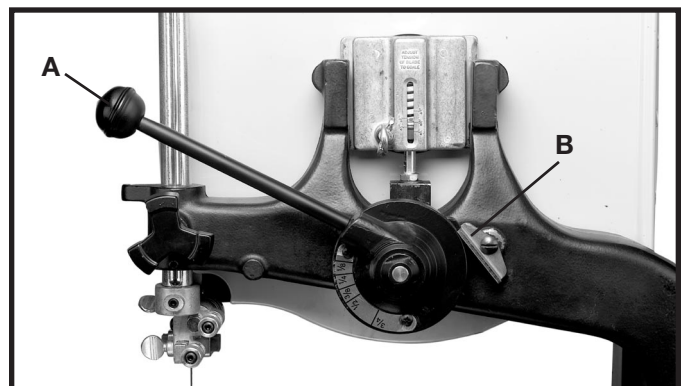
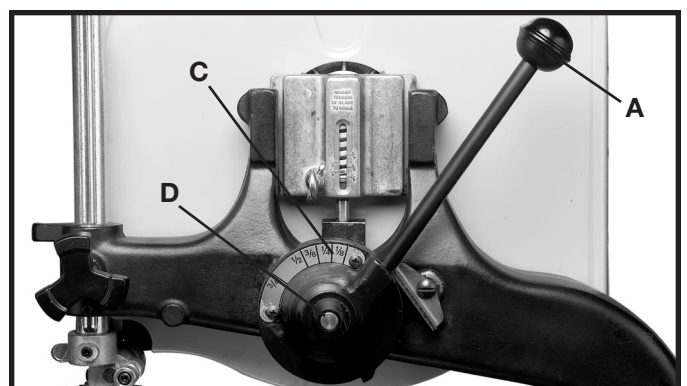

Fig. 49
Fig. 50
The band saw is equipped with a blade tension handle (A) Fig. 49. To apply tension, move the tension handle (A) to the left as shown. To release the blade tension, move the tension lever lock (B) Fig. 49 up, and move the tension handle (A) to the right as shown in Fig. 50.
1. Push up on the blade tension lever lock (B) Fig. 49, move the blade tension handle to the right, to remove the blade tension.
3. Make sure the blade tension lever is rotated to the right as far as possible. Pull out on the blade tension handle (A) Fig. 50, and turn the the tension lever until the appropriate width of the blade is shown on the top of the blade tension lever scale (C) and then release the blade tension lever handle so that the handle is contacting the hub (D).
4. Move the blade tension lever to the left until the lever lock (B) Fig. 49 engages the blade tension lever handle (A).